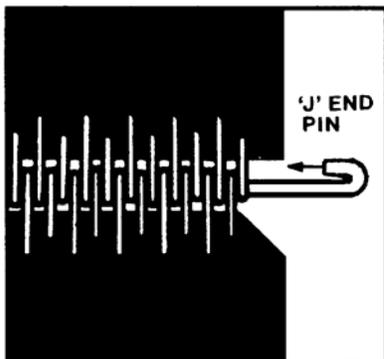

Figure 2-7c
9. **It is not necessary to bend the new notched stainless steel pins**, but they can be bent at the ends to form a 'J' if desired (Fig. 2-7c).